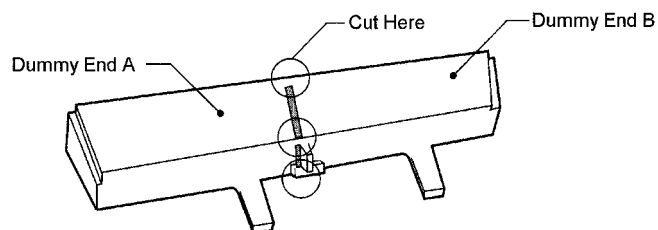

Figure 6-36: Cutting Dummy End in Half
- Cut the dummy end in half as shown in *Figure 6-36: Cutting Dummy End in Half*.